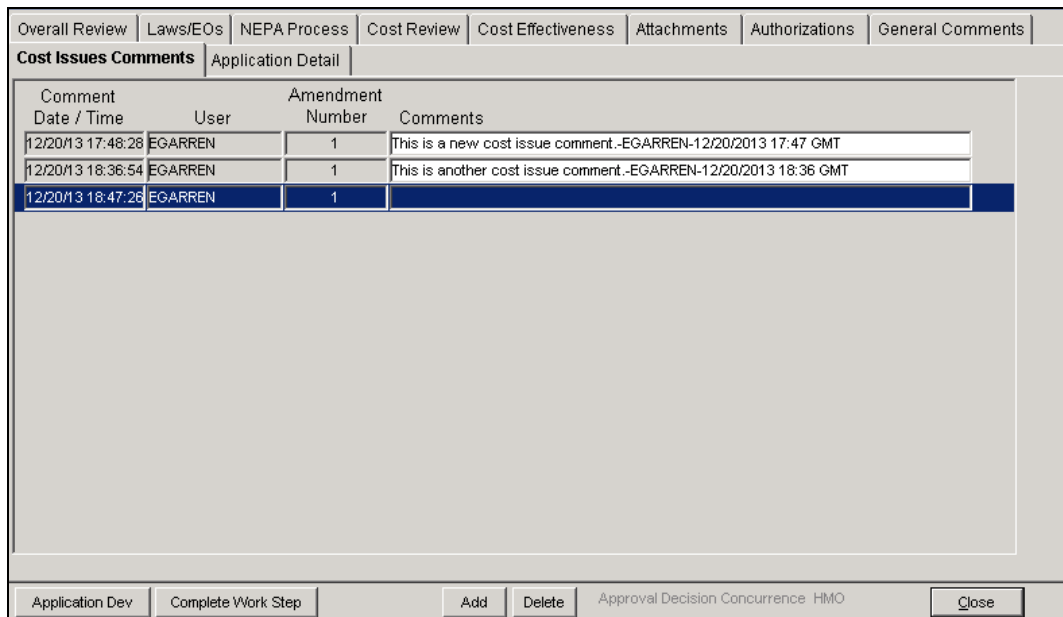

Figure 7-96: Mitigation > Projects > Eligibility Determination > Cost Issues Comments Tab
- a. Click the **Cost Issues Comments** tab (Figure 7-96).